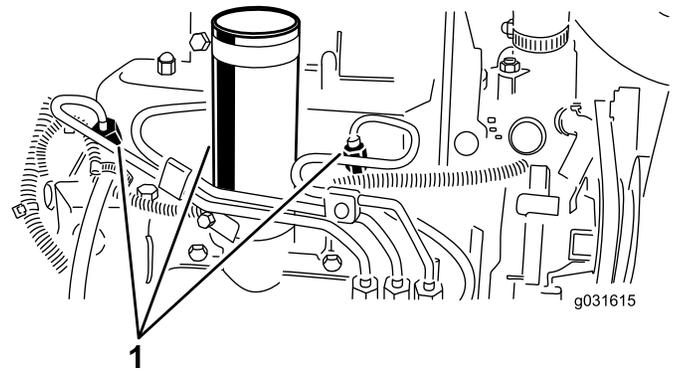

Figure 51
1. Loosen the pipe connection to the No. 1 nozzle and holder assembly (Figure 51).